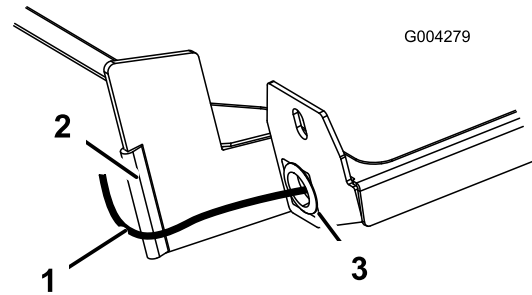

Figure 25
21. Install the large grommet at the outer window in the frame. Cut the grommet and install it to the sides and bottom of the cut out protecting the cable from areas of the frame it is most likely to wear against (Figure 25).
22. Install rubber sleeve to the vertical face of the frame the cable is routed around. Start the sleeve at the bottom and slide upward into place (Figure 25).